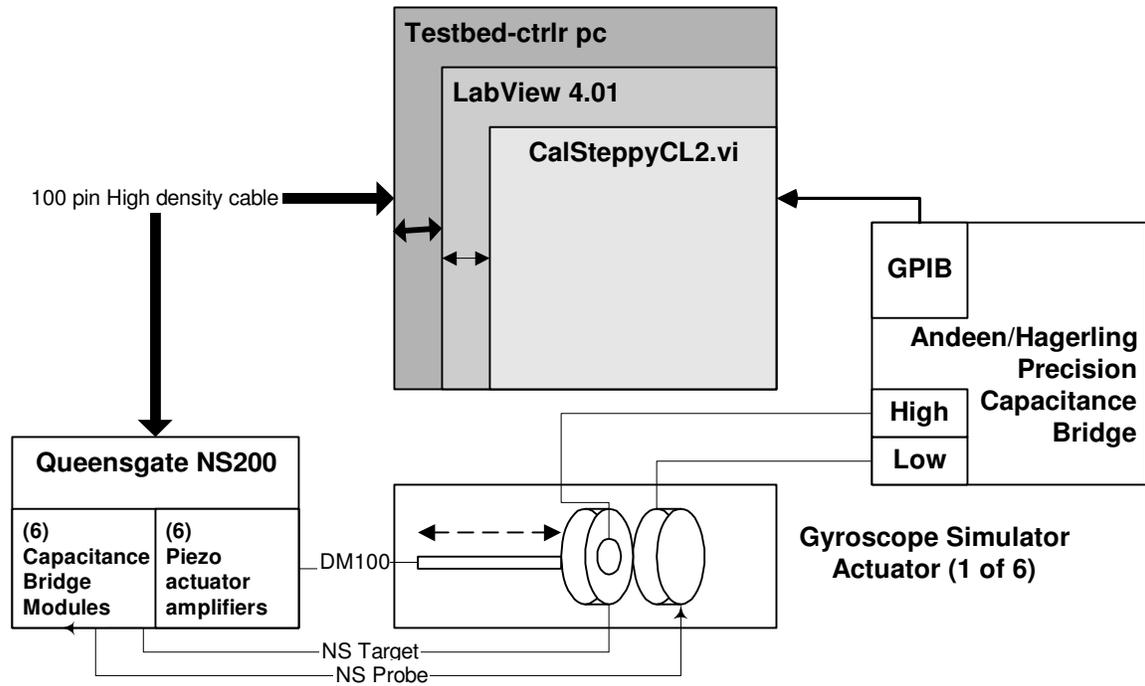

Figure 2. Setup for calibration of FSU EU to Gyroscope Simulator Interface.
12.2.1.	Configure the test setup per figure 2.